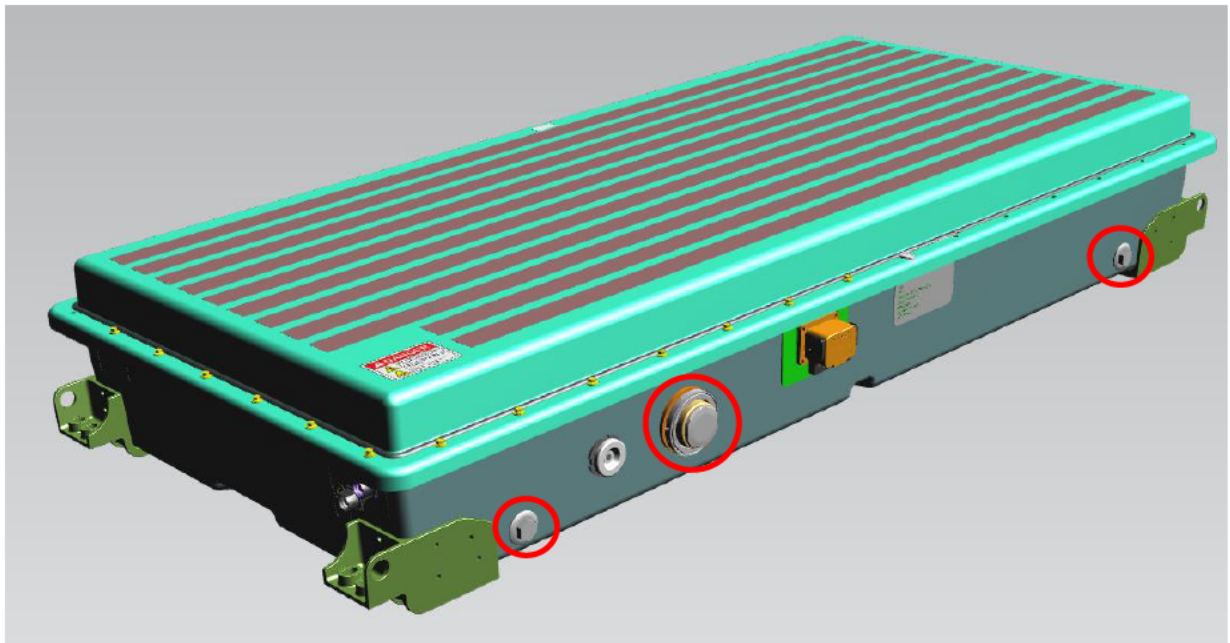

Figure 31: Completed ESS Enclosure
14. A completed ESS enclosure will contain four ports and plugs, and new desiccant, as shown in Figure 31. Repeat for all strings on vehicle.